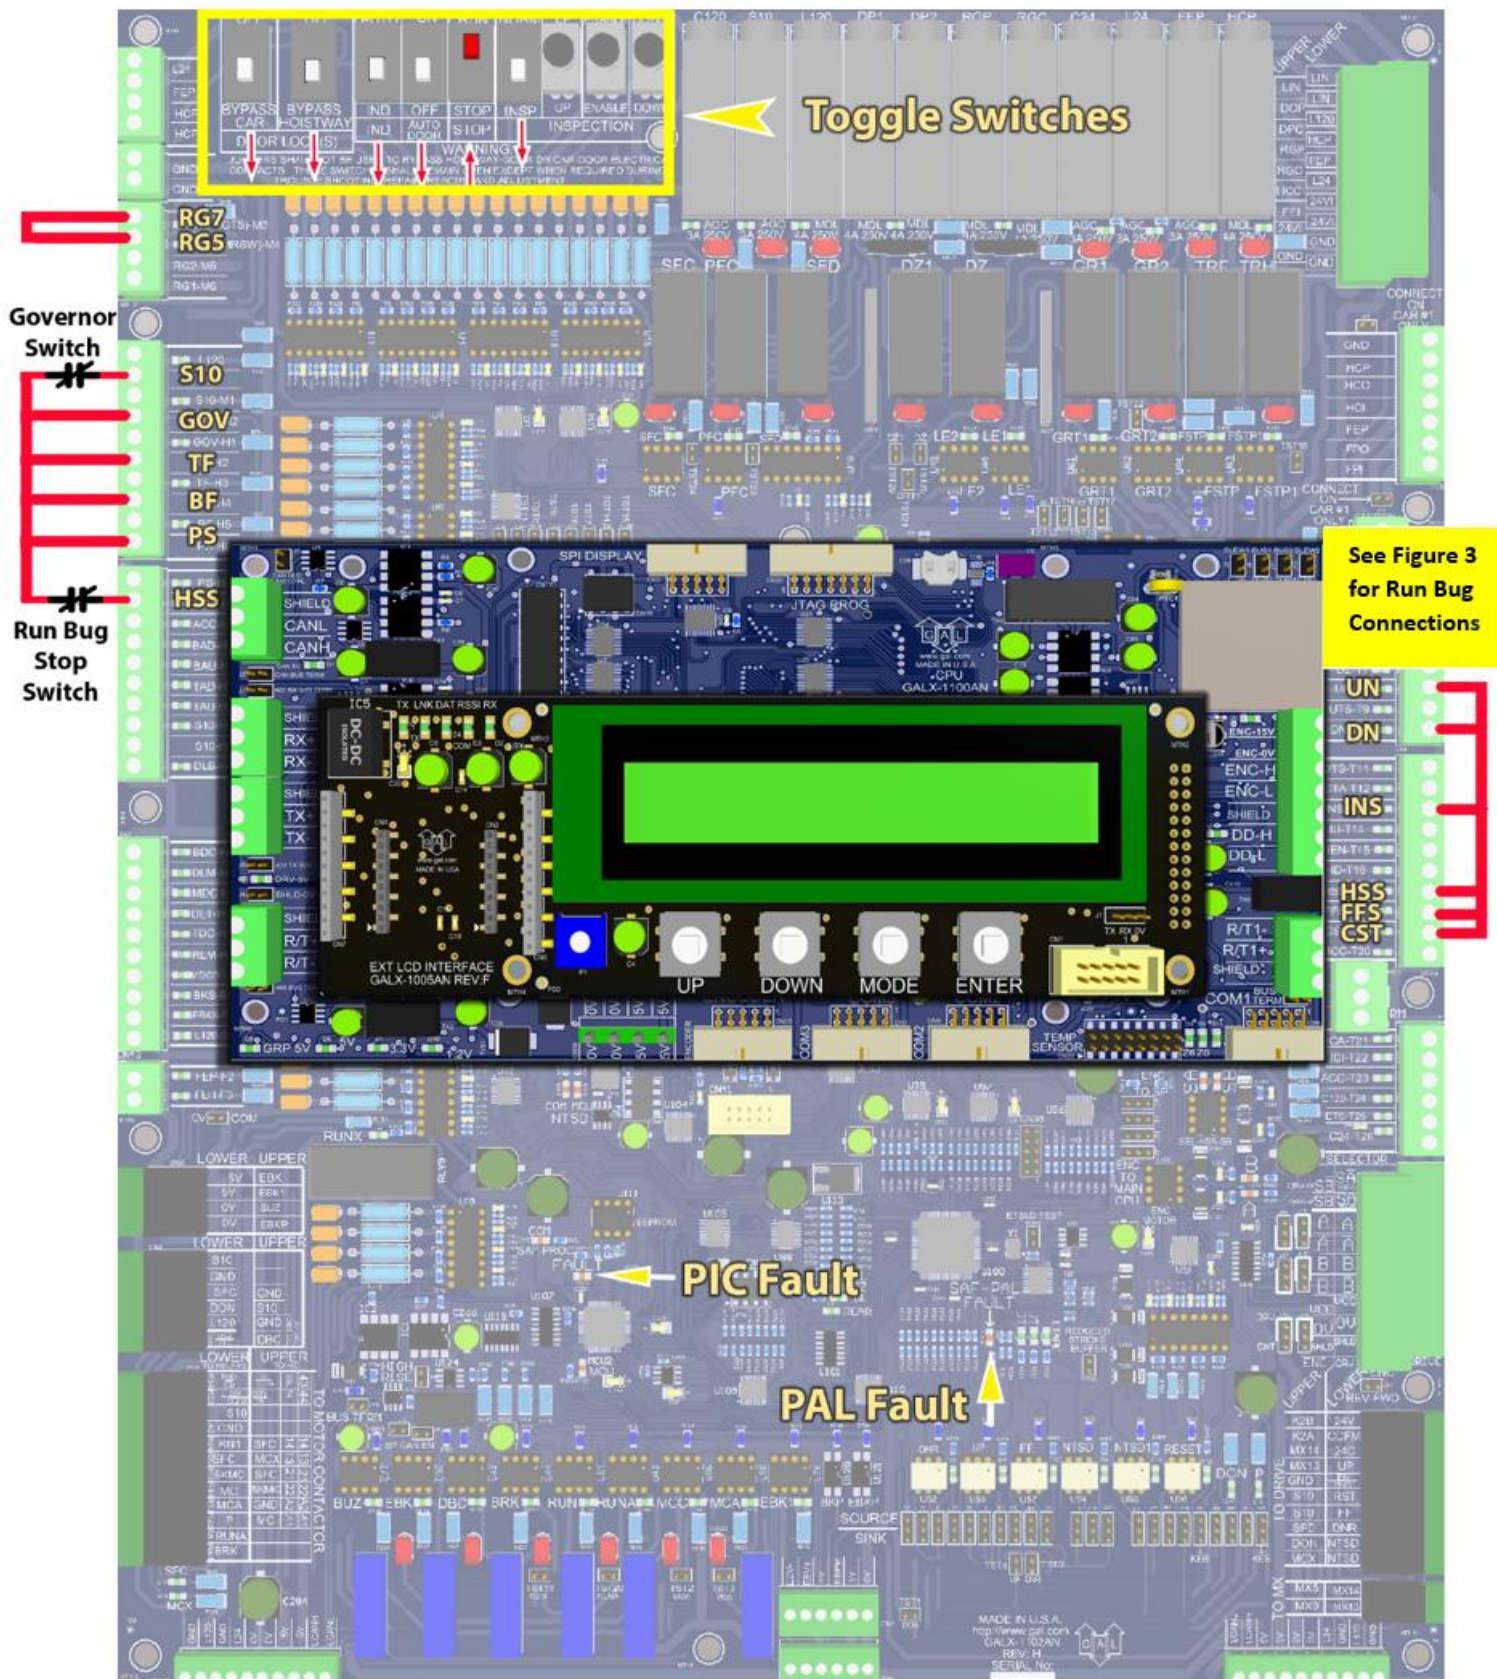

Figure 4: GALX-1102AN Main I/O Board
- 1.6 Set the toggles switches on the GALX-1102 Main I/O Board as show in Figure 4.
- 1.9 Verify the PIC and PAL fault LED’s are off. See the GALX-1102AN Main I/O Board in Figure 4. If these LED’s are on, refer to the GALaxy IV adjustment manual for possible causes of these faults.